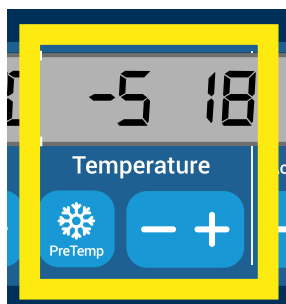

Figure 3–7: Setting the Temperature for the Centrifugation Run (right)
1. Press the **+** or **-** key below the **Temperature** field of the LCD display window (right side of Figure 3–7, showing 18 degrees Celsius) to adjust the desired rotor chamber temperature.